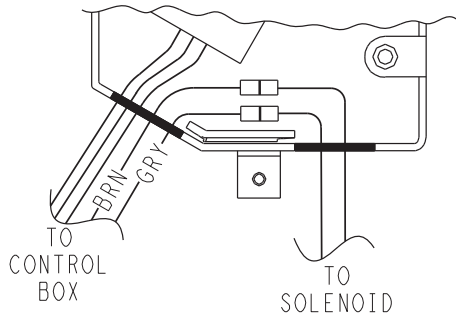

Fig. 9 — Compressor Junction Box (30RAP)
2. Locate the capped ends of the gray and brown wires in compressor A2 compressor junction box. See Fig. 9.